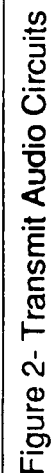

Figure 2- Transmit Audio Circuits
push-to-talk (PTT) is activated, transmit audio and signal tones are summed, and then coupled through a modem filter to the modulator (TX MOD). MTX data is also summed and filtered in the same circuit before modulation. A Block Diagram of the transmit audio circuits is shown in Figure 2.
1. Refer to the Block Diagrams (Figures 2 and 3) for proper signal levels and gains for the various audio paths.